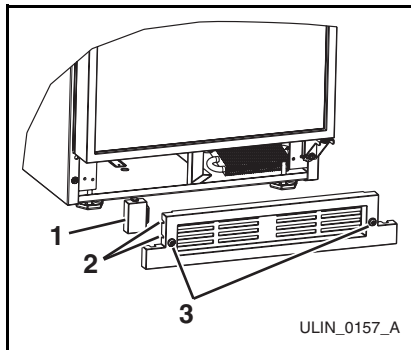

Figure 16
5. Make sure grille cap (**Figure 16, 1**) is behind grille in slots (**Figure 16, 2**) provided in grille before attaching grille to unit, and secure, but do not overtighten both grille screws (**Figure 16, 3**).